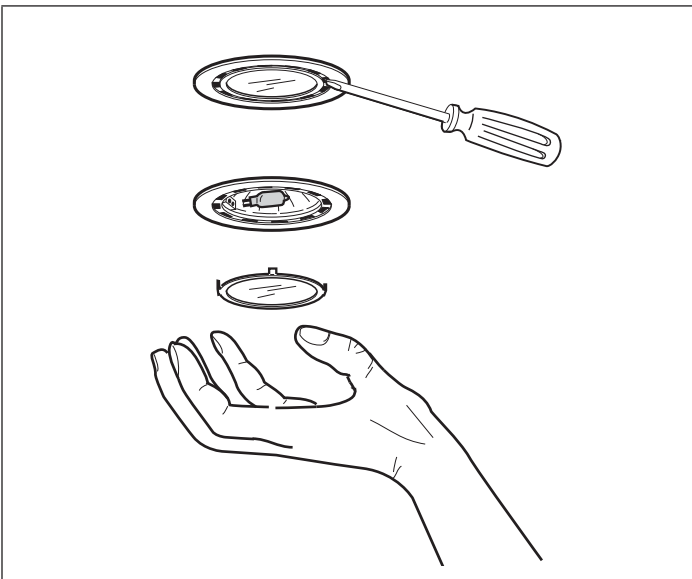

Figure 5: Halogen Light Replacement
- Using a flat edge from a screwdriver or equivalent tool, pry loose the lens cover as shown in Figure 5.